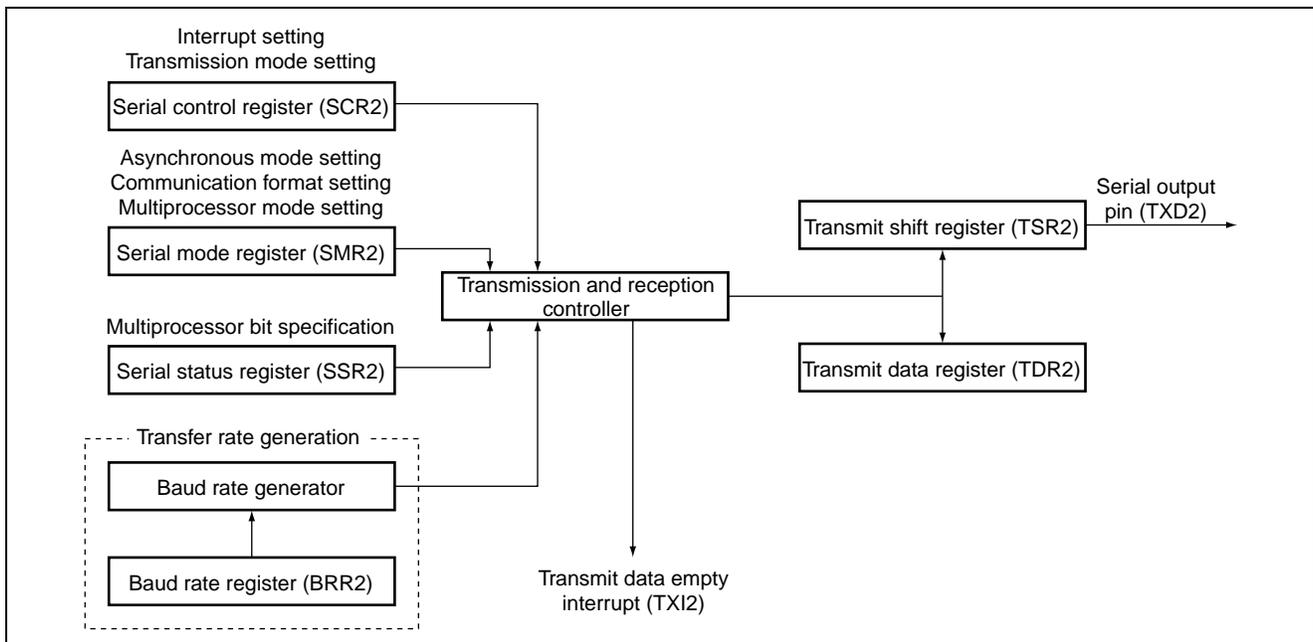

Figure 2 Block Diagram of Transmitting Station SCI
- A. The block diagram of the transmitting station SCI used by the sample task is shown in figure 2.